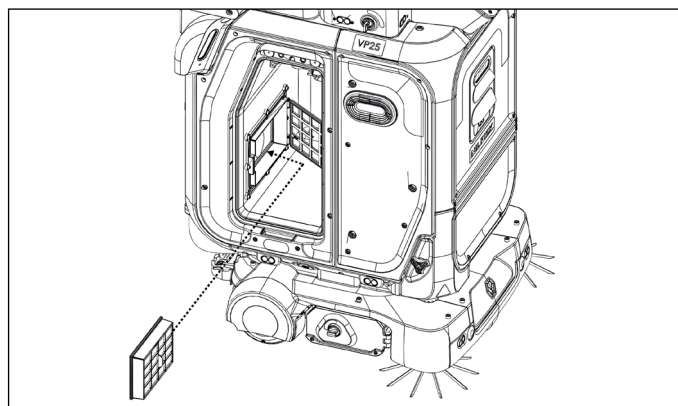

Figure 84
4. Install the filter into the filter holder (Fig. 84).